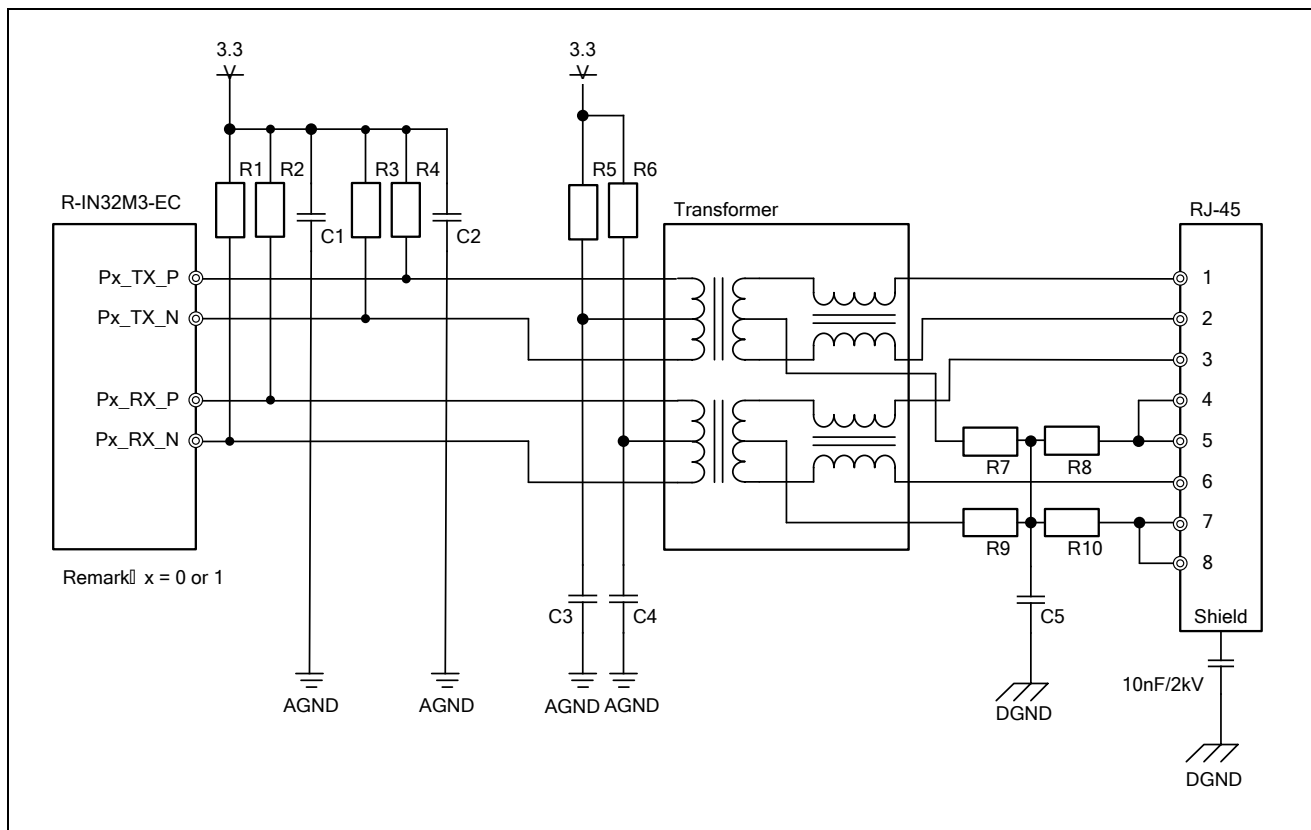

Figure 7.3 Connection example R-IN32M3-EC and Pulse transformer and RJ-45 connector
- (b) Void and no planes between and around the signal vias (see Figure 7.3). Metal of planes close to the differential vias could influence the impedance.
- (c) The diameter of the vias should be almost equal to the trace width. (See 'w' in Figure 7.3)